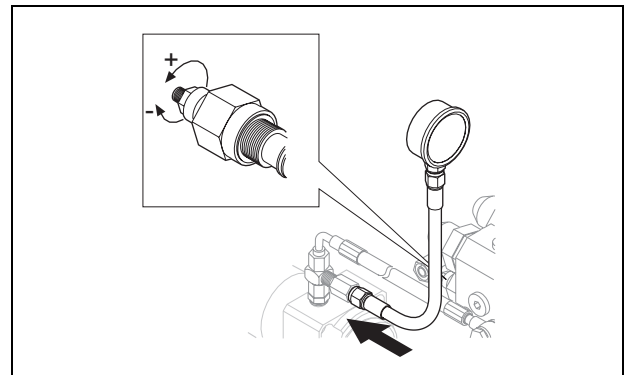

Fig. 29 Adjust the feed out pressure
7. If necessary, shut down the machine and adjust the tension pressure at the set screw on the pressure regulating valve located in the saw motor manifold. *See Fig. 29.*